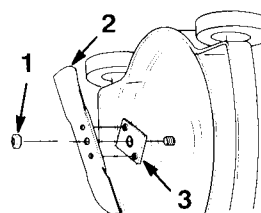

Figure 27
1. Remove the blade nut (Fig. 27).
2. Remove the blade from the blade driver (Fig. 27).
1. Ensure that the blade driver is installed on the crankshaft. See Figure 27.
2. Install the blade over the lugs of the blade driver with the curved ends toward the housing (Fig. 27).